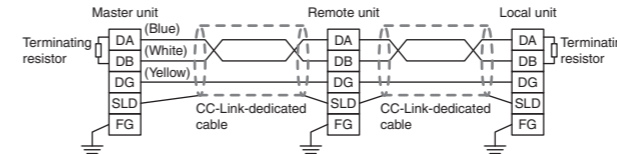

Figure 2
- (2) A bus termination is required at both ends of CC-Link bus segment as shown in the Figure 2.